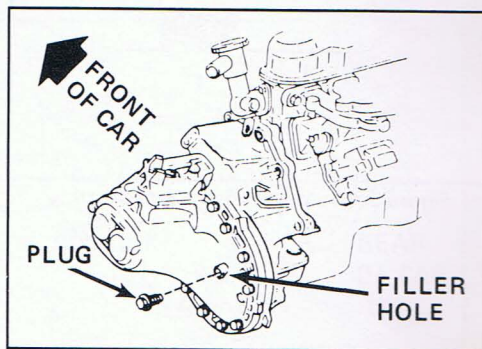

Figure 1 - Left hand side of transaxle
1. Check the fluid level only when the engine is off, the vehicle is level and the transaxle is cool enough to let you rest your fingers on the transaxle case. To check, carefully remove the filler hole plug above the axle shaft on the driver's side of the case. See Figure 1. If the transaxle is hot, fluid may flow from the filler hole when you remove the plug.